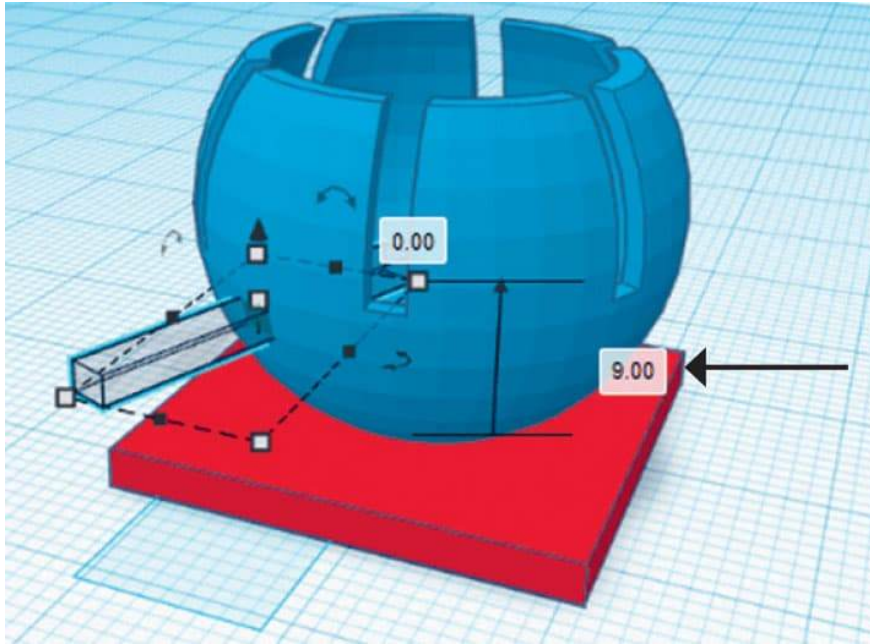
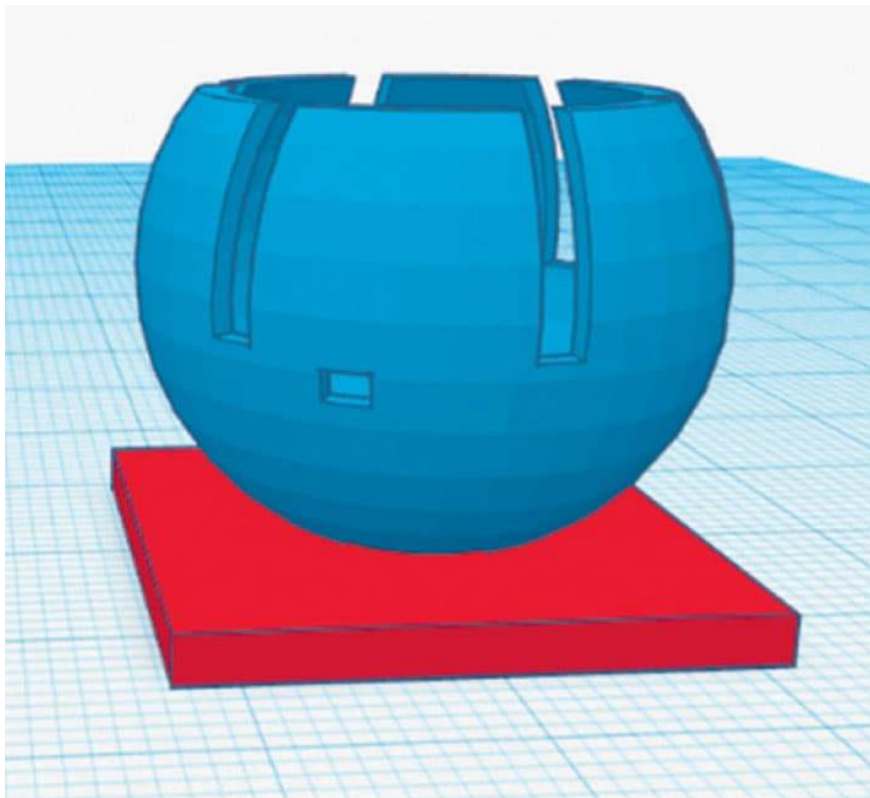

FIG. 2: Create a box-shaped hole in the socket.
FIG. 3: The completed box-shaped hole in the socket.
3. We will now create a keyhole so we can lock the holder in a vertical position. Create a 2 mm × 2 mm × 20 mm **Rectangular Box Hole**. Merge it with the socket at the about half the height of the socket (note the height from the workplane; see the arrow in fig. 2). **Group** the box hole with the socket to form the keyhole in the socket (fig. 3).